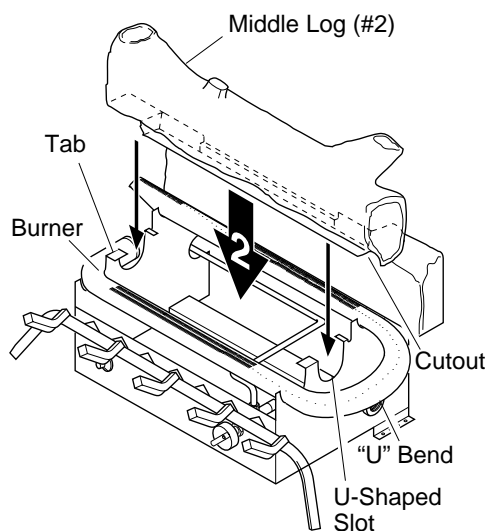

Figure 20 - Installing Middle Log (#2)
2. Place the base of the middle log (#2) in the U-shaped slots of the grate base in front of the back log. The cutout on the right of the middle log should fit over the burner (see Figure 20). Make sure the front of the middle log is resting on the tabs of the grate base and the cutout area is centered over the burner "U" bend.